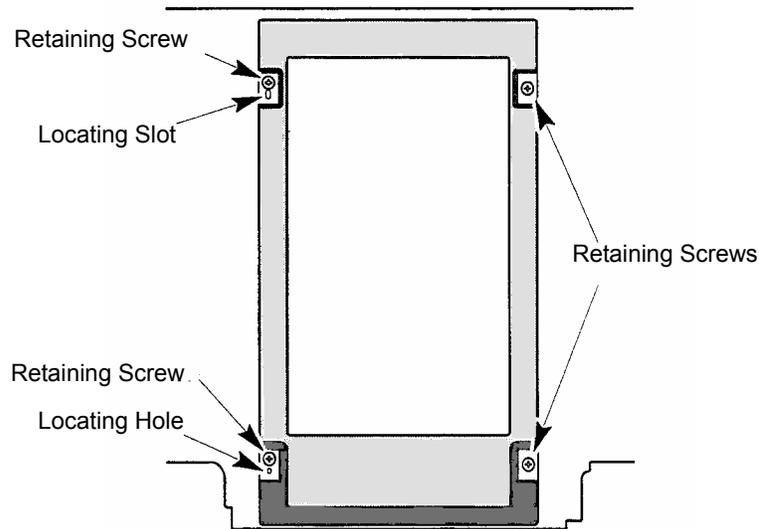

Figure 25 Four retaining screws in the sample compartment
1. After removing the sample compartment cover and baseplate as described above, undo the four retaining screws shown in Figure 25.